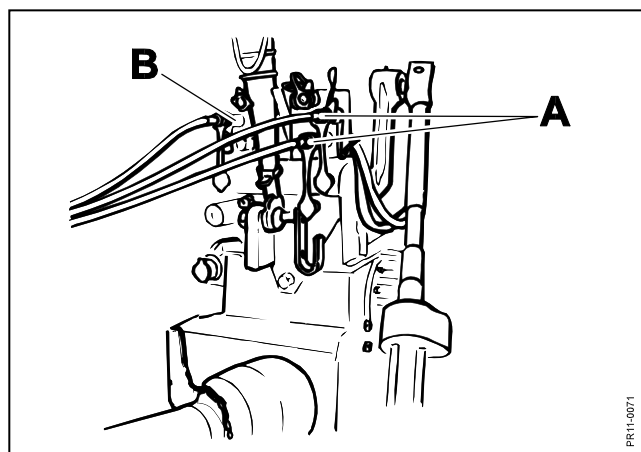

Fig. 2-6
**Fig. 2-6** The hydraulic hoses for the drawbar shift cylinder are connected to the double-acting oil outlet **A** and the hydraulic hose for the wheel cylinders is connected to a single-acting outlet **B** on the tractor. See **HYDRAULIC DIAGRAM** on page 53.